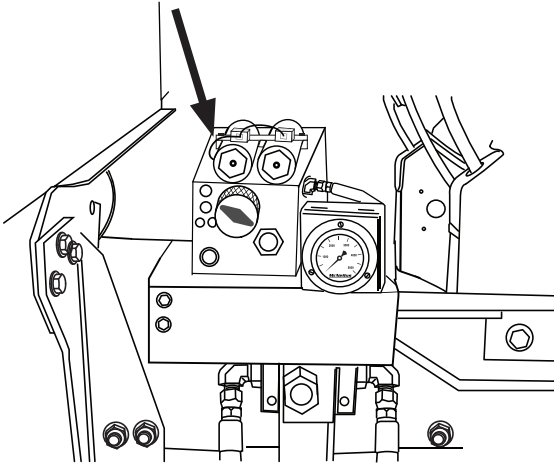

Figure 1
2. Locate the BM pressure reducing valve knob (Figure 1).